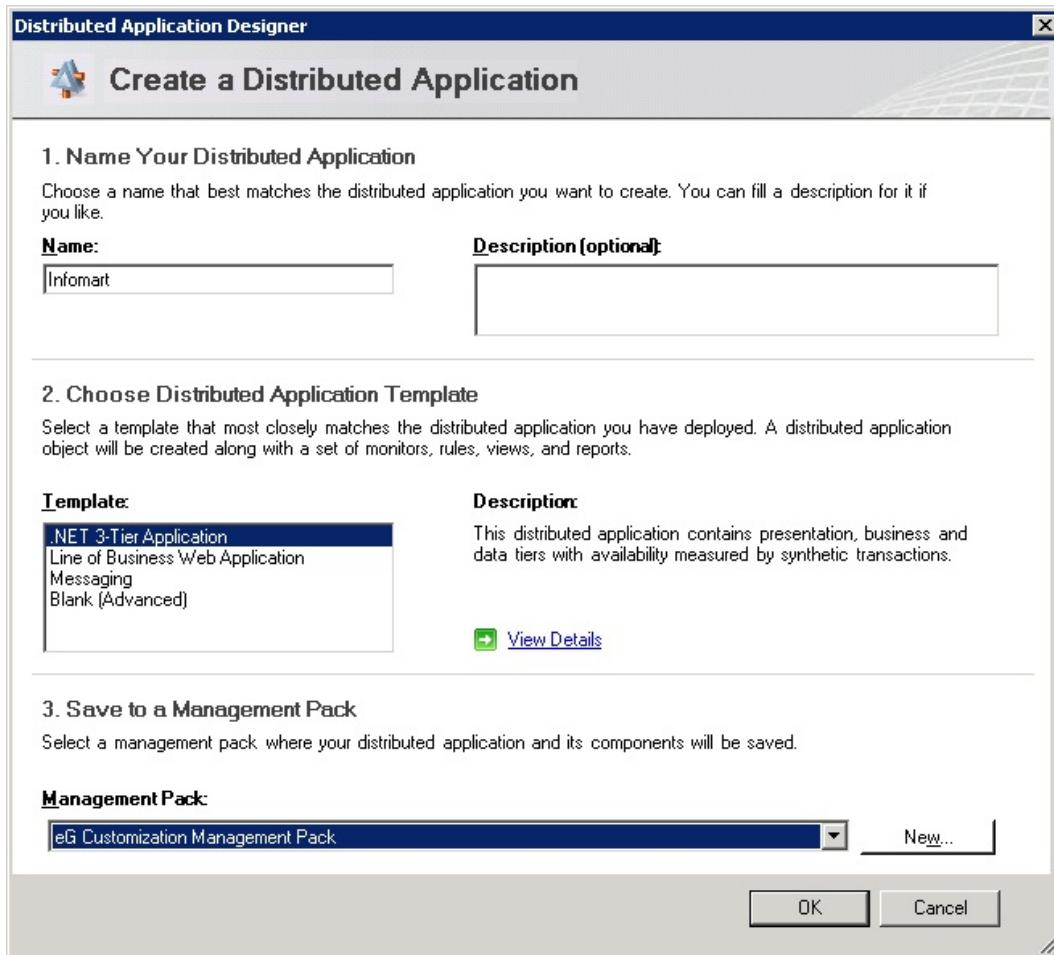
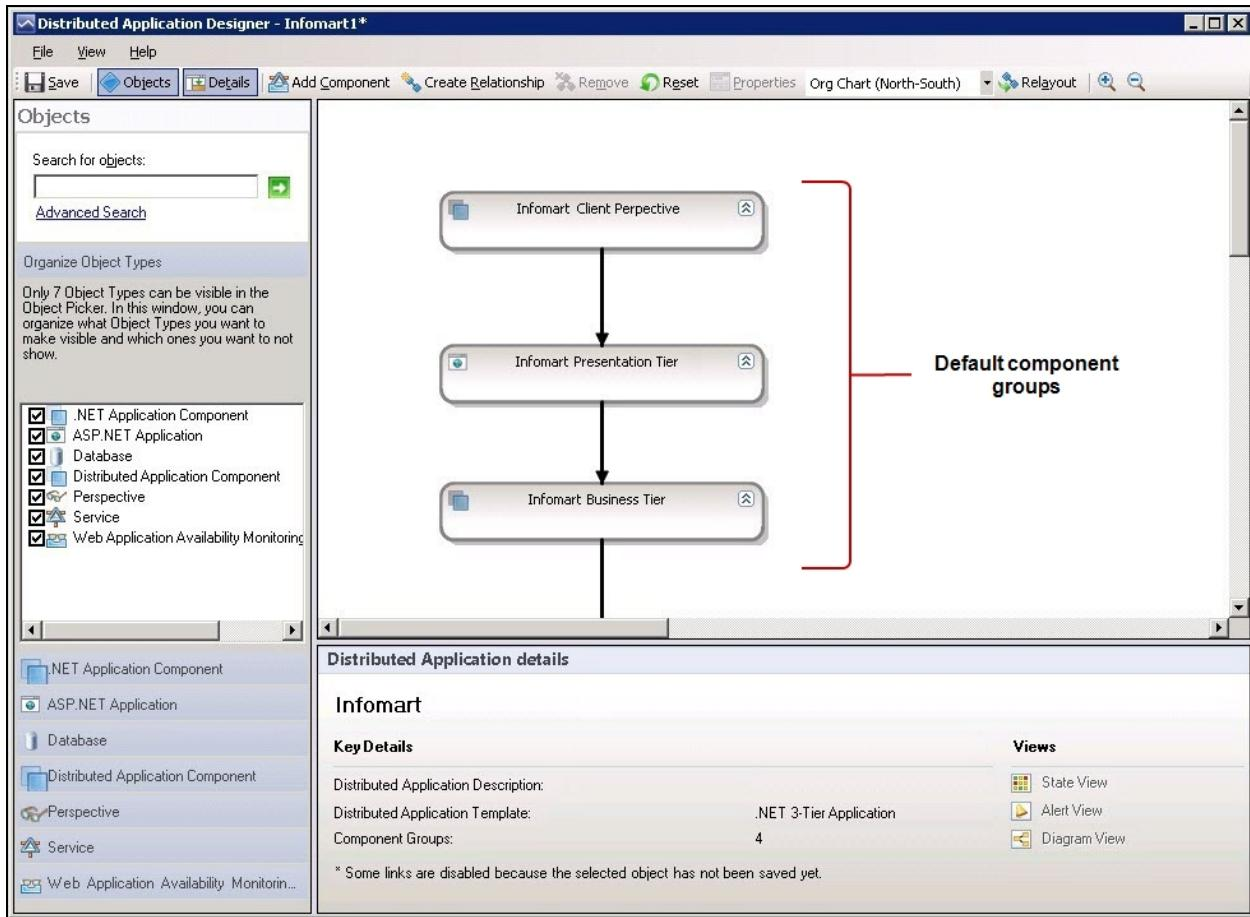

Figure 4.26: Creating a Distributed Application
Figure 4.27: The Distributed Application Designer
3. Figure 4.26 then appears.
4. In the **Name Your Distributed Application** section of Figure 4.26, provide a unique Name to your distributed application – for easy identification, it's best to name the distributed application after the business service it corresponds to. In the case of our example therefore, set *Infomart* as the **Name** of the distributed application. Next, select the **.NET 3-Tier Application** option from the **Template** list in the **Choose Distributed Application Template** section, and pick the **eG Customization Management Pack** option from the **Management Pack** drop-down in the **Save to a Management Pack** section. Finally, click the **OK** button in Figure 4.26. This will invoke the **Distributed Application Designer** window (see Figure 4.27).